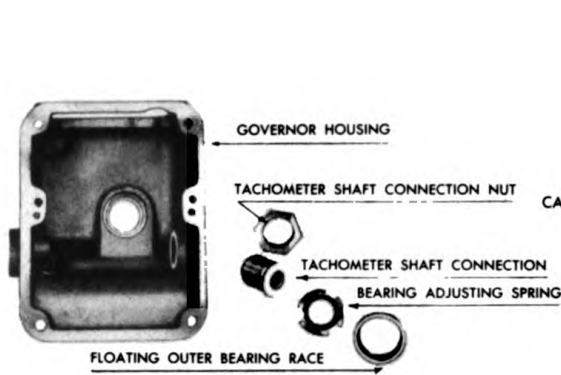

Figure 218. Governor Housing and Tachometer Shaft Connection.
6. Remove the tachometer shaft connection and nut, the bearing adjusting spring and the floating outer race shown in Figure 218.
5. Install tachometer shaft connection and nut, bearing adjusting spring, and race shown in Figure 218.